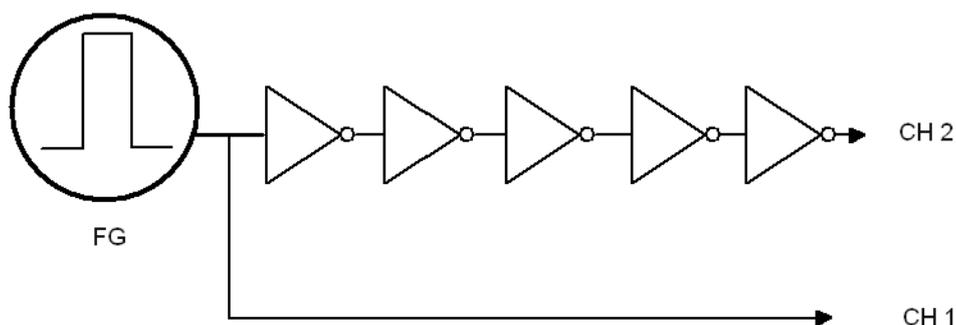

Fig. 1. Circuit to measure the propagation delay of a gate.
1. Connect 5 **inverters** as shown in Fig. 1. **Don't forget to connect the power and ground from the power supply to any IC used in all of the experiments in this semester.** According to the datasheet, the IC is 74LS\_\_\_. Its  $V_{CC}$  is pin \_\_\_ and GND is pin \_\_\_\_\_. **All 74 series ICs use a power of 5 Volts.**